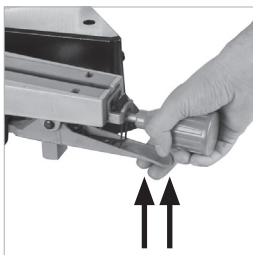

Fig. 31
- Pull up the Positive Stop Locking Lever. (**Fig. 31**)